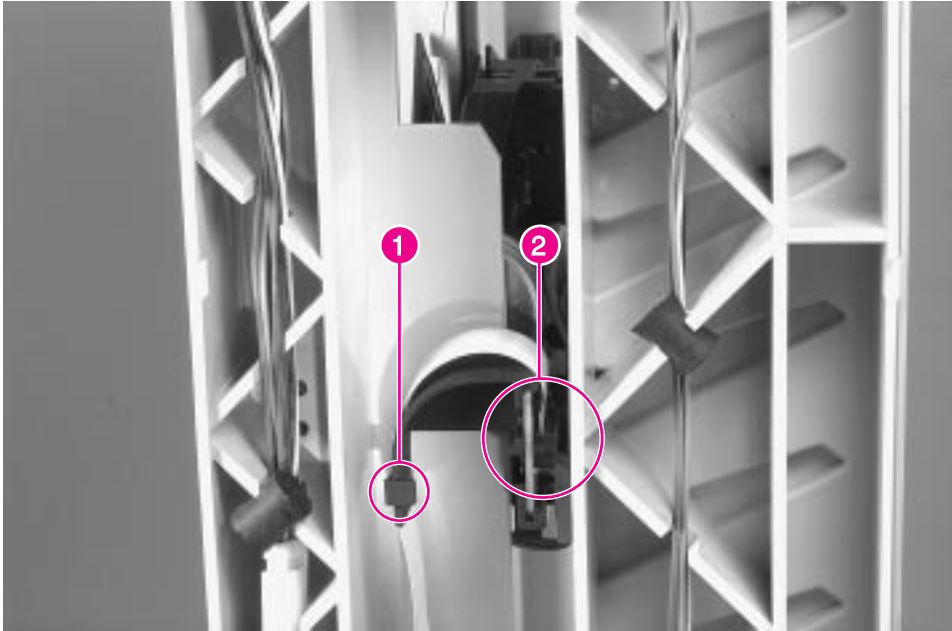

Figure 6-55 Mailbox with Stapler, Delivery Head Ribbon Cable
- 4 Unlock the cable clip (figure 6-55, callout 1), and unplug the ribbon cable (figure 6-55, callout 2) from the left end of the Delivery Head Assembly.